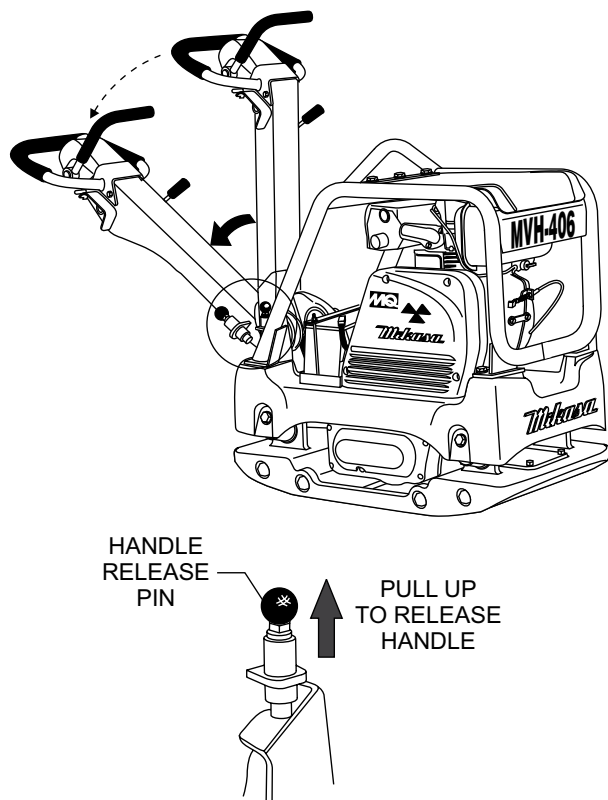

Figure 11. Handle Release Pin
1. Pull the handle release pin, (Figure 11) then push down on the hand grip to release the handle.